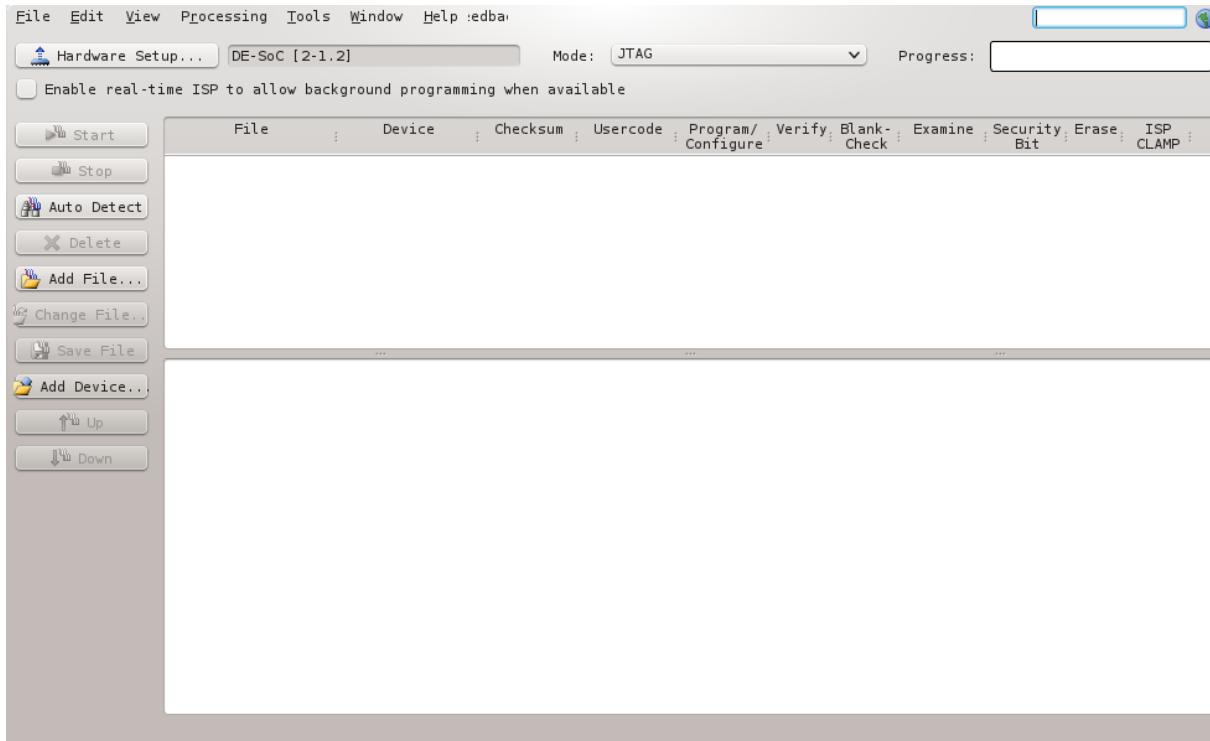
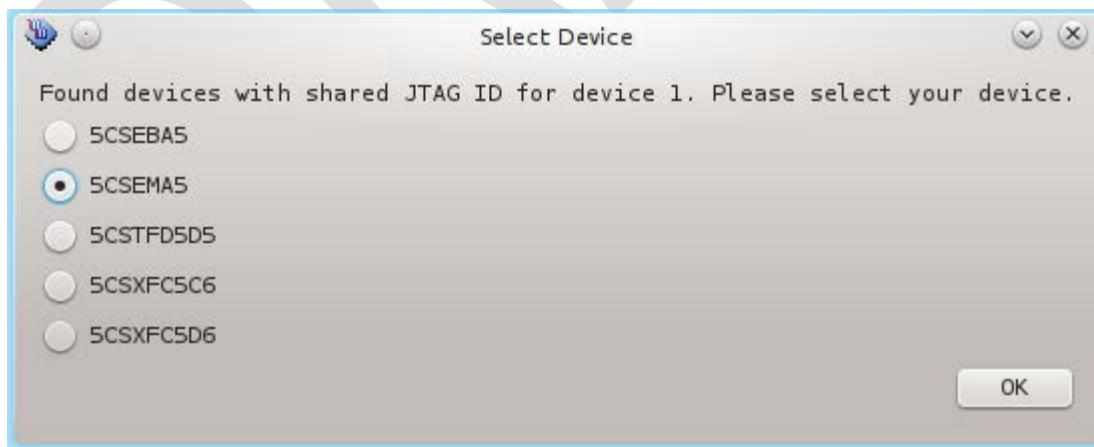

Figure 8-15. Quartus II Programmer
Figure 8-16. FPGA Selection
37. Choose the “Auto Detect” button on the left of Figure 8-15, then choose “5CSEMA5”, as shown in Figure 8-16.